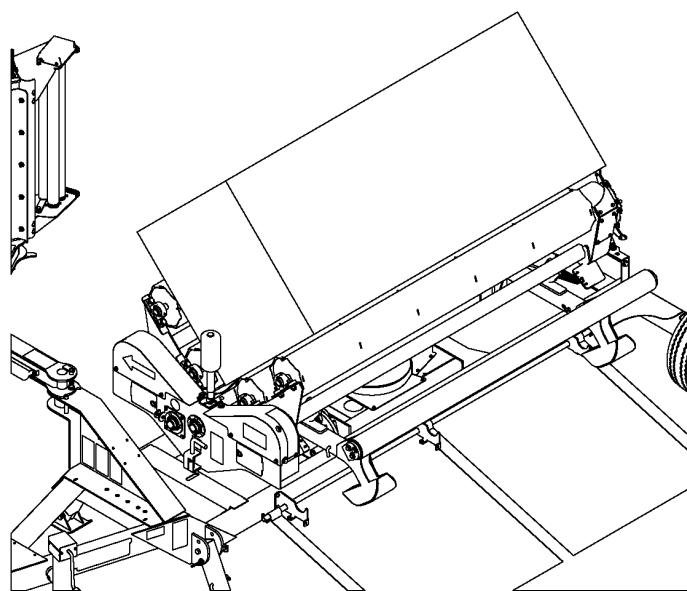
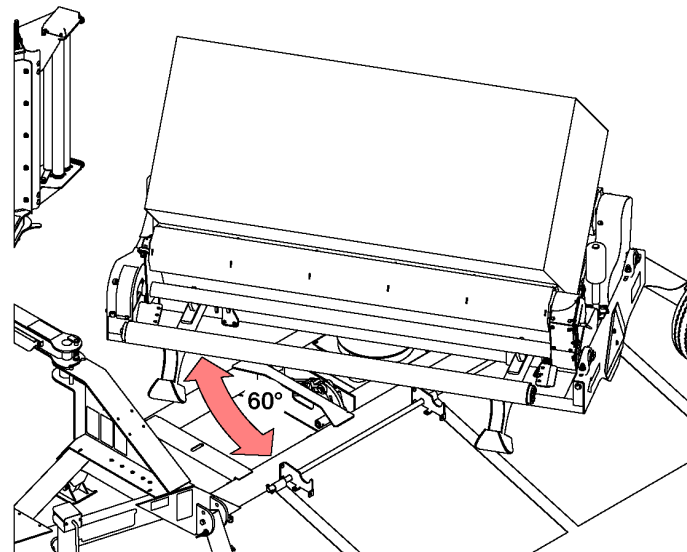

Fig.6 - Home Position
Fig.7 - Load Position
4. Set display screen **MODE** to **LOAD FROM HOME** if loading first bale from left side which is the home position, shown in Fig.6 or if using a skidsteer, set display screen **MODE** field to **AUTO FROM LOAD POSITION**, Fig.4 on pg.9-2, and press **LOAD** button on remote control to rotate turntable to load position, Fig.7, before loading bale.